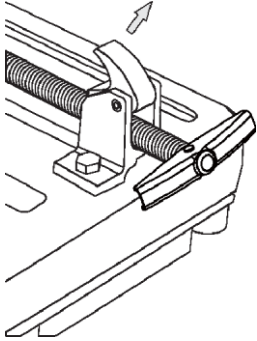

Fig 8
1. To operate the quick release lever system, turn the vise crank counterclockwise 2 or 3 turns to loosen the vise jaws. (Fig 8)